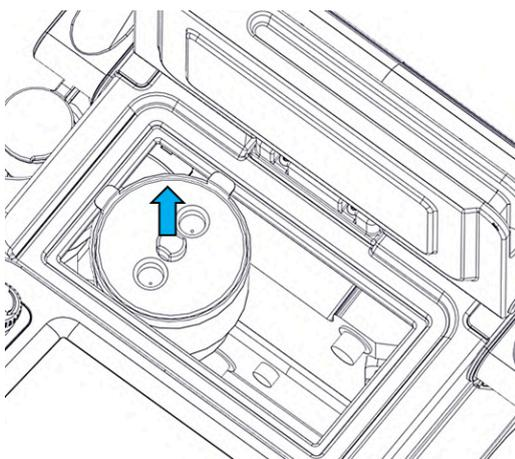

FIGURE 10-3
3. Remove the debris cage in the waste water tank (Fig. 10-3), empty and wash if necessary.